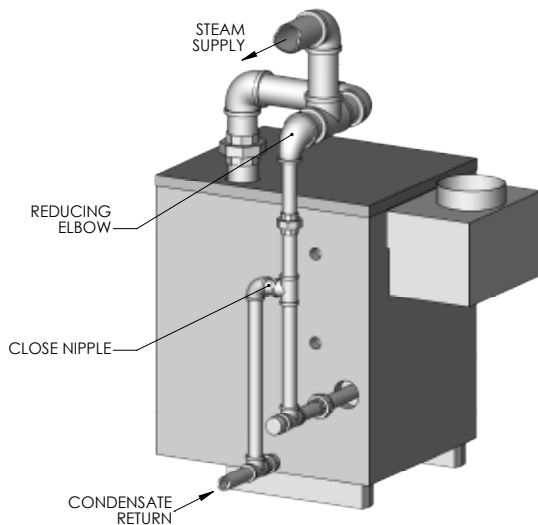

Figure 4.1: Steam Piping – Single Supply Connection
5. Connect the equalizing line as shown in Figure 4.1 or 4.2 assuring that the reducing elbow is facing down and that any bushings are vertical to prevent water build-up in the steam header.